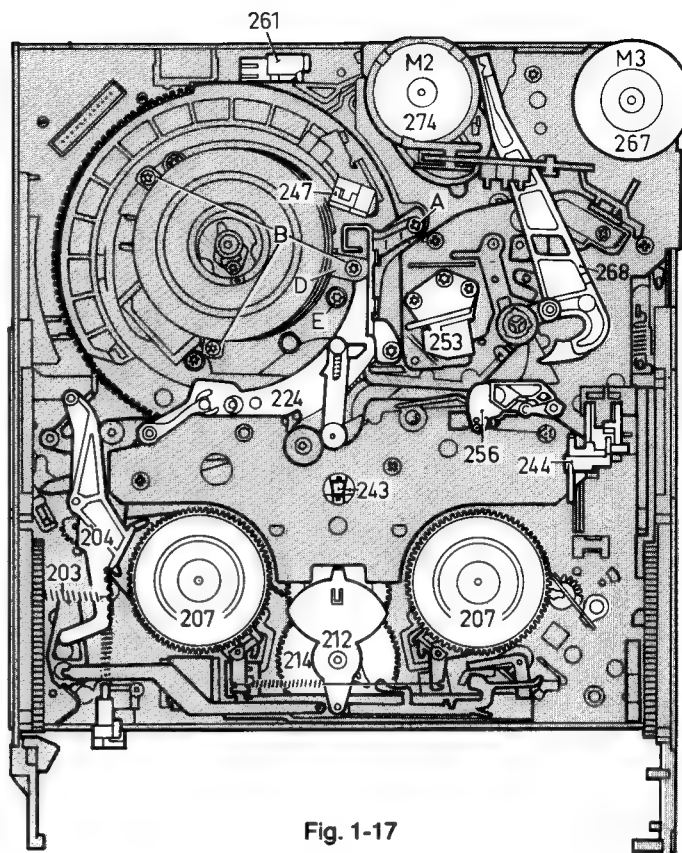

Fig. 1-17
- Remove scanner motor (Fig. 1-17).
- Mark the right-hand fixing screw E (Fig. 1-17) of the scanner carrier.